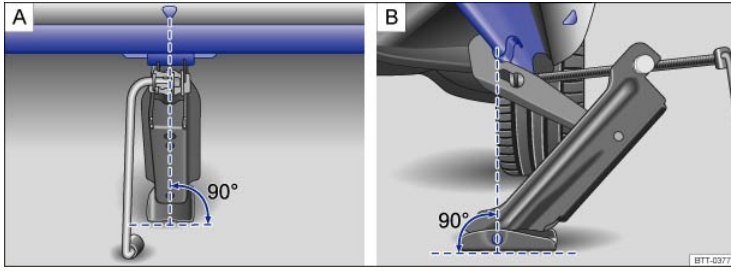

Fig. 212 Jack in position at the left rear lift point.
- Position the jack only at the described vehicle lift points. Before you raise your vehicle, always make sure the jack claw properly grips the rib under the sill so that the jack does not slip off when you are raising the vehicle ⇒ Fig. 212.